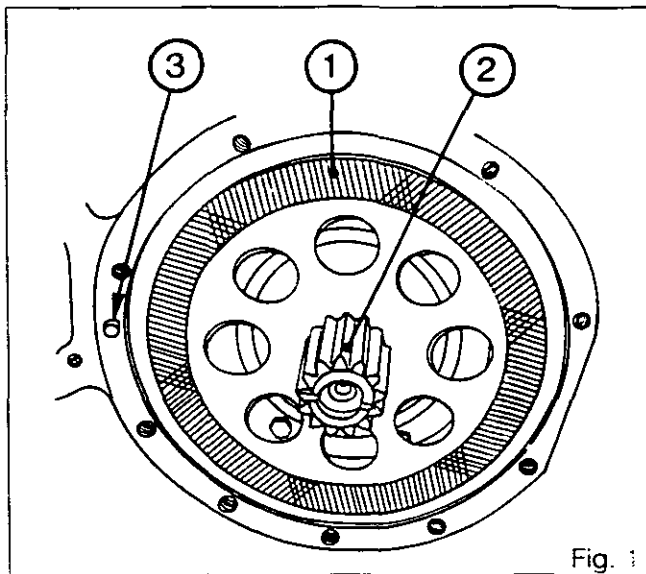

Fig. 1
3. Remove the disc (1), the planetary shaft (2), the dowel (3) (Fig. 1).